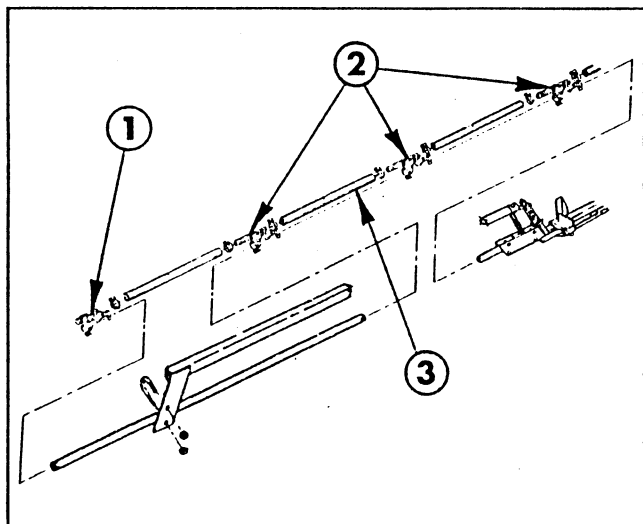

FIG. 14
51. Secure the two plates of the boom support assembly to the extension boom pipe, using (2) 1/4" U-bolts, (4) locknuts, and (4) flat washers (FIG. 14).
54. Attach three double barb and one single barb nozzle assemblies on each extension boom pipe as shown in FIG. 14. Nozzles are to be spaced on 20" centers. Connect the nozzle assemblies with the 3/4" x 19" jumper hoses. Secure with hose clamps.